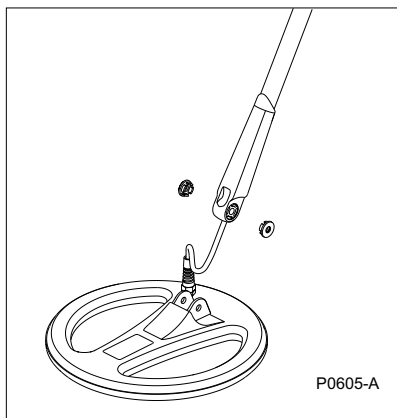

Figure 2.2 Inserting coil yoke into bracket
- STEP 2 (Figure 2.2, following page) Plug the two black plastic washers into the recesses provided on either side of the coil yoke.
- STEP 4** (Figure 2.2) To join the shaft to the search coil, slide the yoke into the yoke bracket on top of the coil.
STEP 6 Re-attach the yoke and the search coil. Be careful not to damage the thread of the nut by over-tightening. See Figure 2.2 and 2.3.